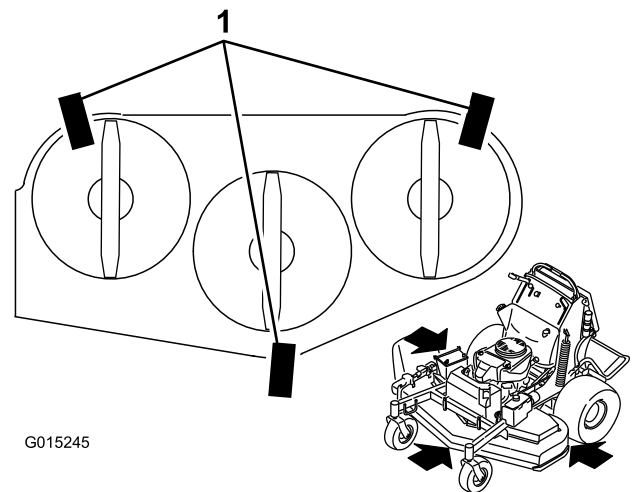

Figure 89
1. Place 3 pieces of 2x4 wood under the mower deck as shown in Figure 89. Stand the 2x4's on the 4 inch part.